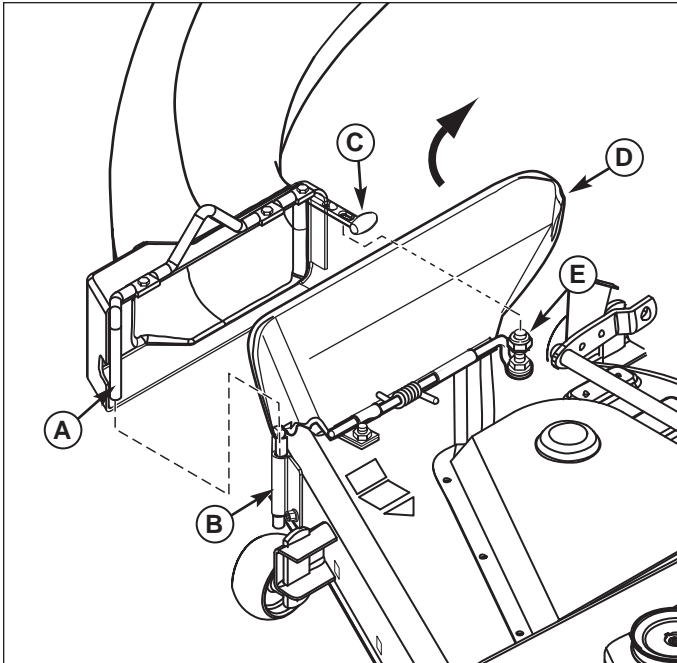

Figure 12. Install Lower Tube
1. Lift discharge deflector up (D, Figure 12).
2. Insert lower chute rod (A) into mounting plate (B).
3. Pull rubber strap (C) and secure by placing hole closest to knob in strap completely over locknut (E).